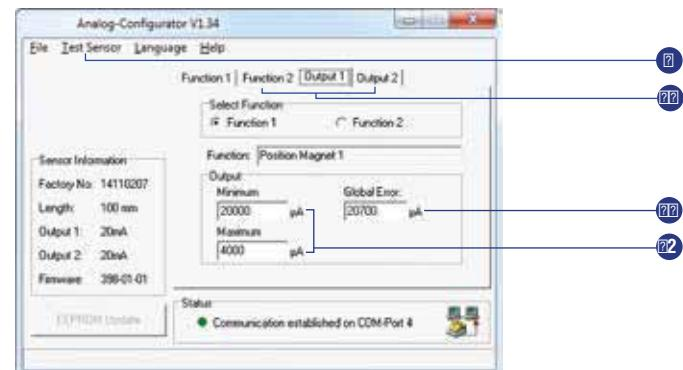
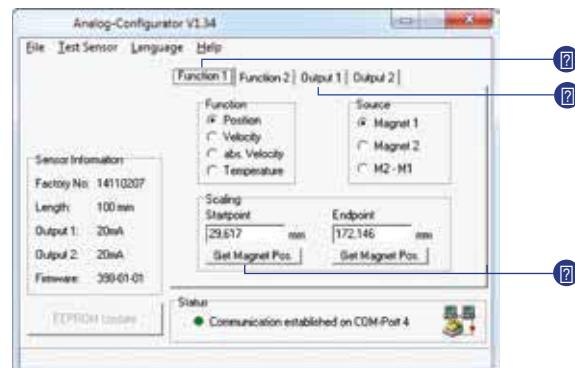

Fig. 43: Example of tab controls
Fig. 42: Example of tab controls
- ⑥ Via tab **Function** ① you can determine the type of measurement and the **Source**. In Fig. 42 position measurement with **Magnet 1** ② is selected. Under **Scaling** you can specify the **Startpoint** and **Endpoint** of the position measurement.
- ⑦ Via tab **Output** ③ the analog output signal is assigned to a function, **Function 1** ④ or **Function 2**.
- ⑧ If **Position** is selected as type of measurement the actual magnet position can be stored via buttons **Set Magnet Pos.**. (Note: On sensors with 2 magnets, value storage always relates to the first magnet only).
- ⑩ Index cards **Function 2**, **Output 2** and the functional reference to the 2nd magnet in field **Source** (Fig. 42), are provided only for sensors with two analog outputs.
- ⑪ Unless a position magnet is provided, or if it is in the sensor dead zone, i.e. out of measuring range, **Global Error** is output. The error value can be adjusted within -0.7...20.7 mA.
- ⑫ Thereby, field **Output Minimum** indicates the current value which should be output at the starting point of the selected function. The output value pertaining to the end point must be specified in field **Output Maximum** (Fig. 43).